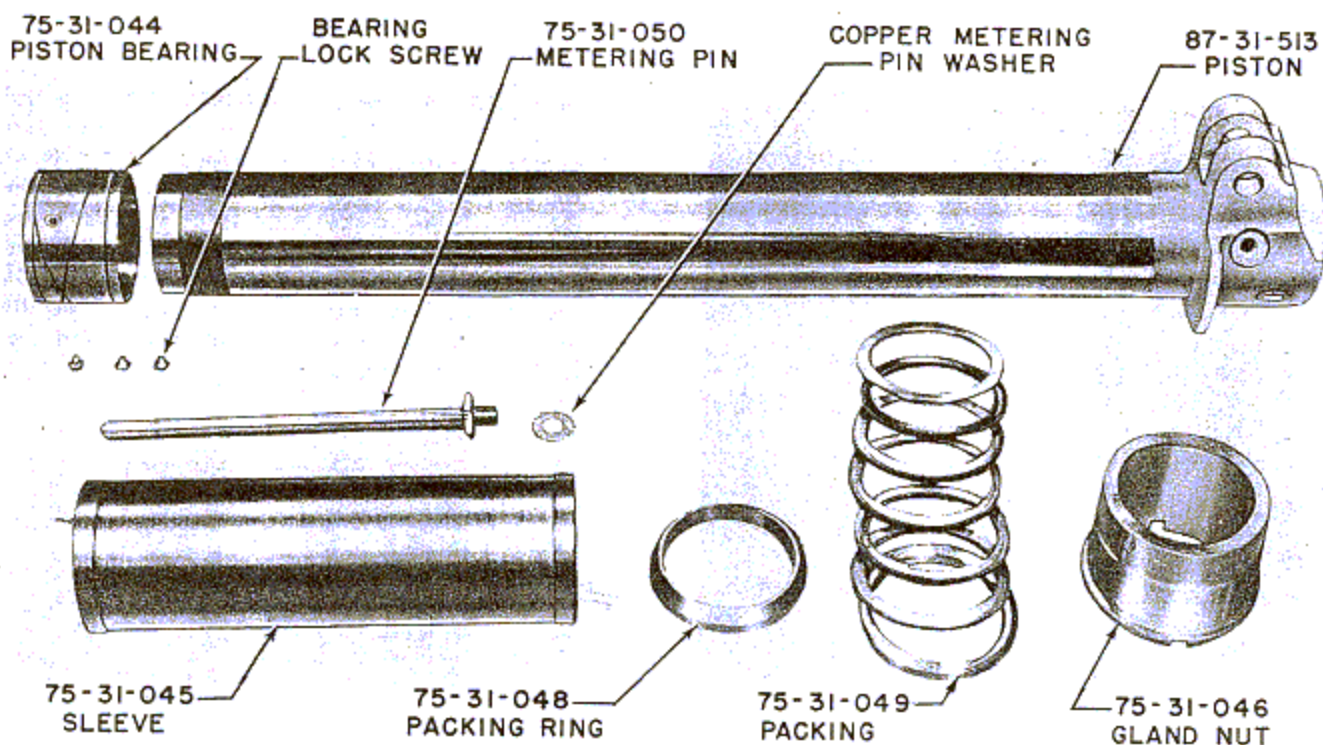

Figure 122—Oleo Strut Piston Disassembled
11. Pull the piston assembly from the end of the cylinder. The piston assembly is composed of the gland nut, packing and packing rings, piston sleeve, piston bearing, and metering pin. (See figure 122.)
14. Use a spanner wrench and turn the piston bearing off the piston. The sleeve, packing ring, packing and gland nut can now be slid off the piston. The piston is now completely disassembled as illustrated in figure 122.